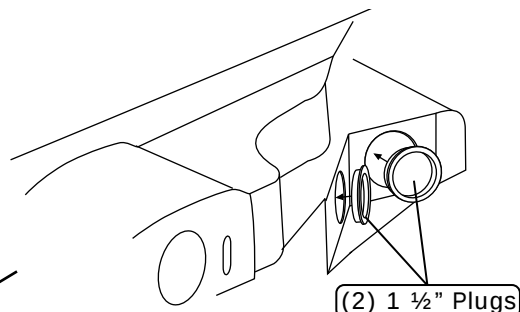

Figure 1a
8. Remove the coolant overflow bottle by removing (3) bolts and the overflow hose (retain).
12. Install (2) 1 ½" plugs into the firewall as shown in Figure 1a, below. **NOTE: Apply a small bead of silicone onto the back edge of the plugs and install.**
3. Remove the template and cut along the dotted line. Remove the plastic portion of the dash. **NOTE: Do not cut through the foam dash pad on the back side of the plastic (See Figure 1a, below).**